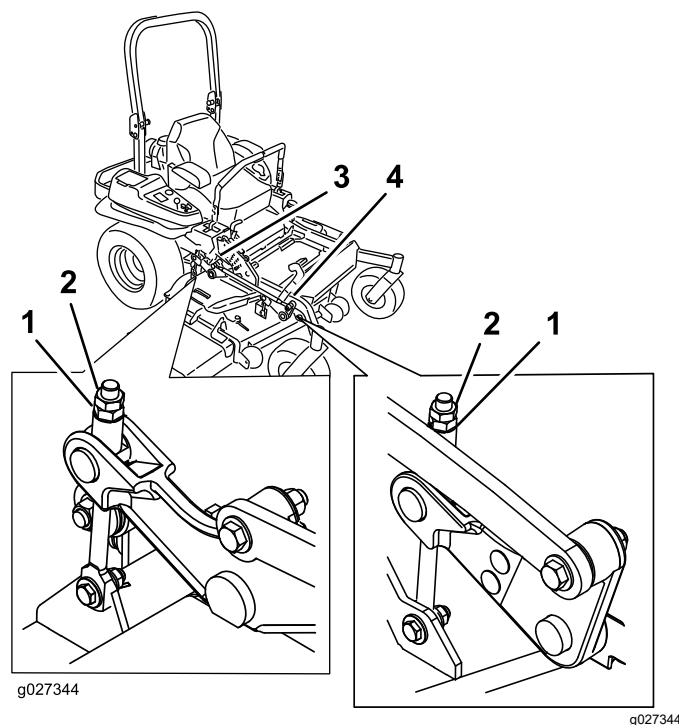

Figure 97
10. Fine-tune the adjustment nut on the front deck-lift assembly by turning it (Figure 97).
16. Fine tune the screw adjuster by turning it to get 8.3 mm (3-1/4 inches) height (Figure 97).